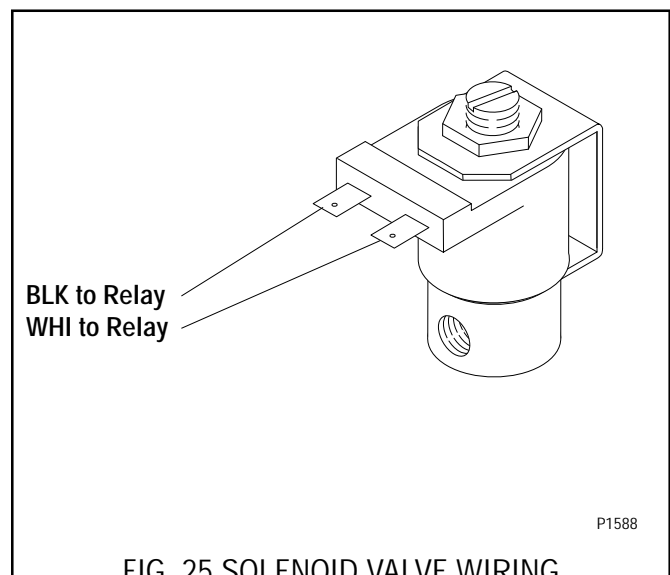

FIG. 25 SOLENOID VALVE WIRING
11. Refer to FIG. 25 when reconnecting the wires.